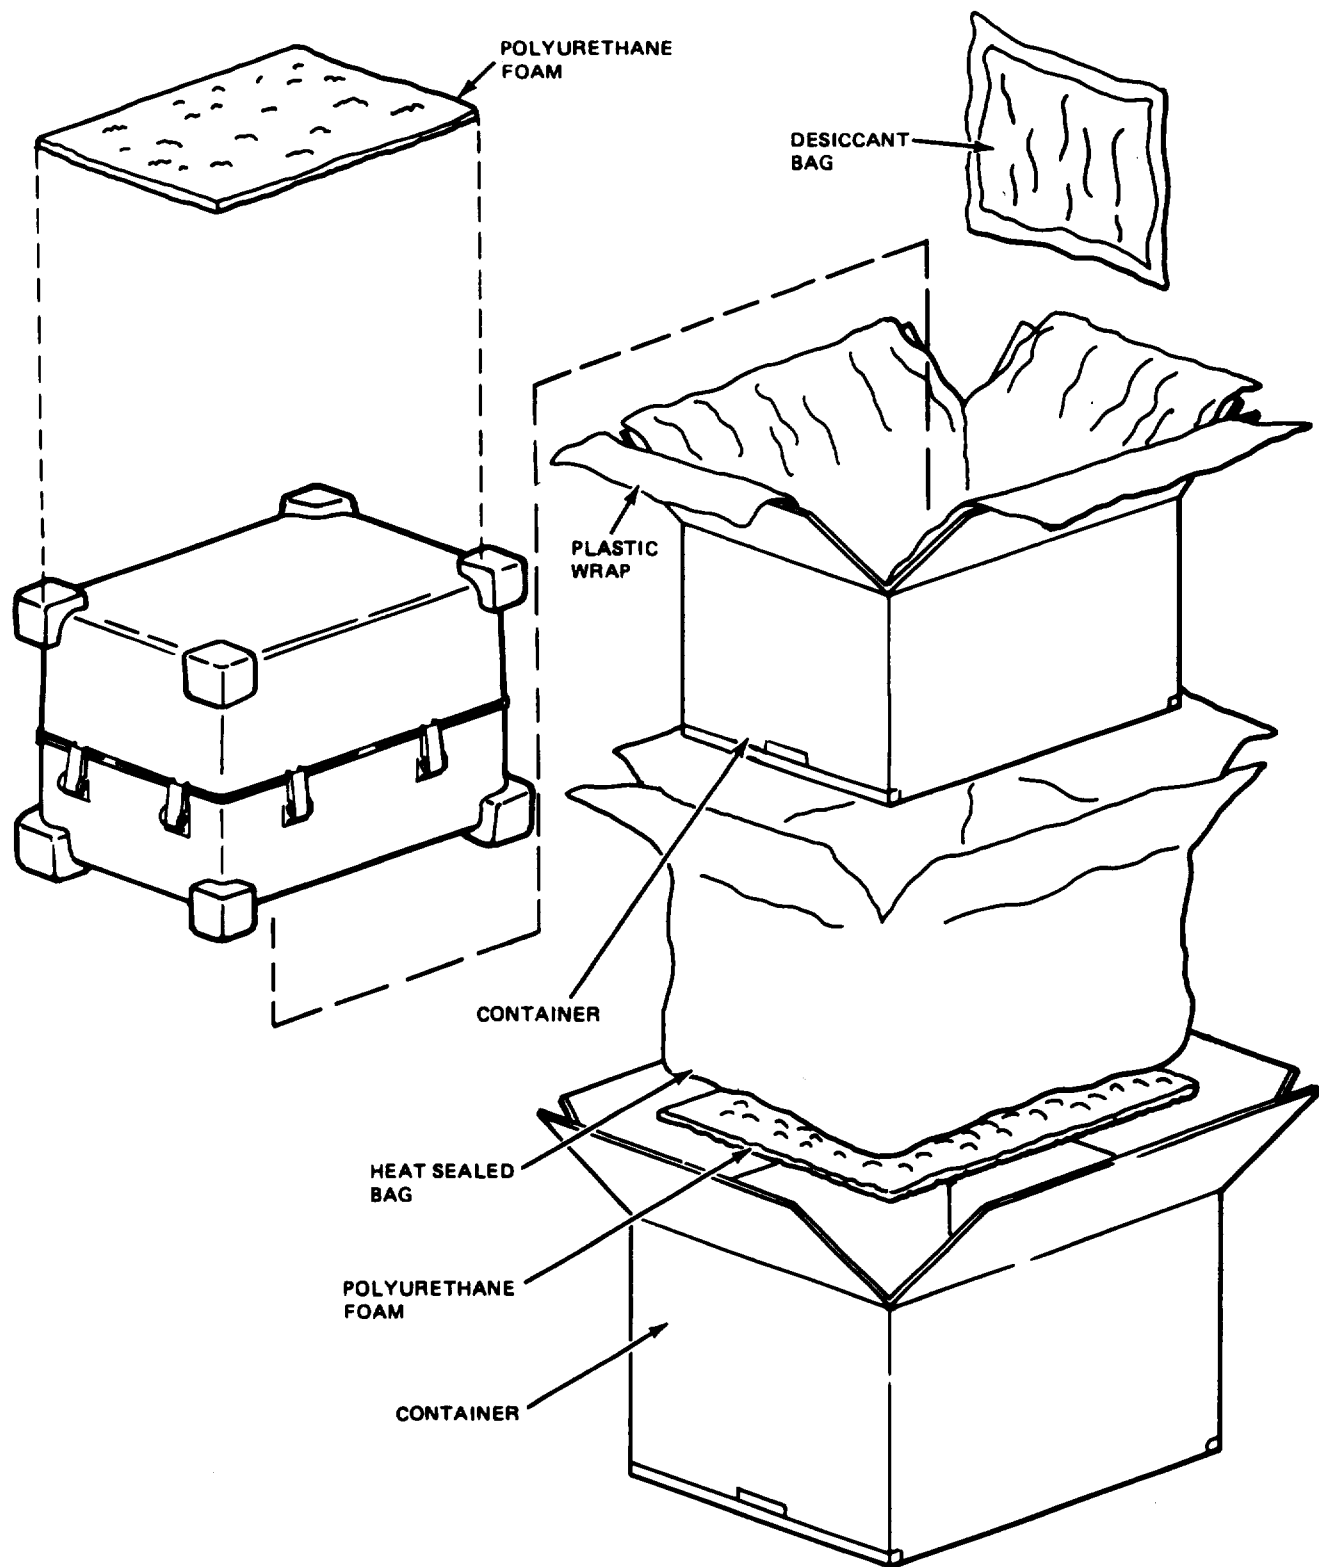

Figure 3-23. Preparation for Movement.
(2) Place cables (W1, W2, W3, and W11) and cable adapters (W13 and W14) in top cover of TC transit case and secure the inner lid.
(3) Install top cover of TC transit case and secure all latches.
(4) For field storage, secure the TC in the CSS shelter.
(5) For extended storage or shipment, package the TC with desiccant bag as shown in figure 3-23.